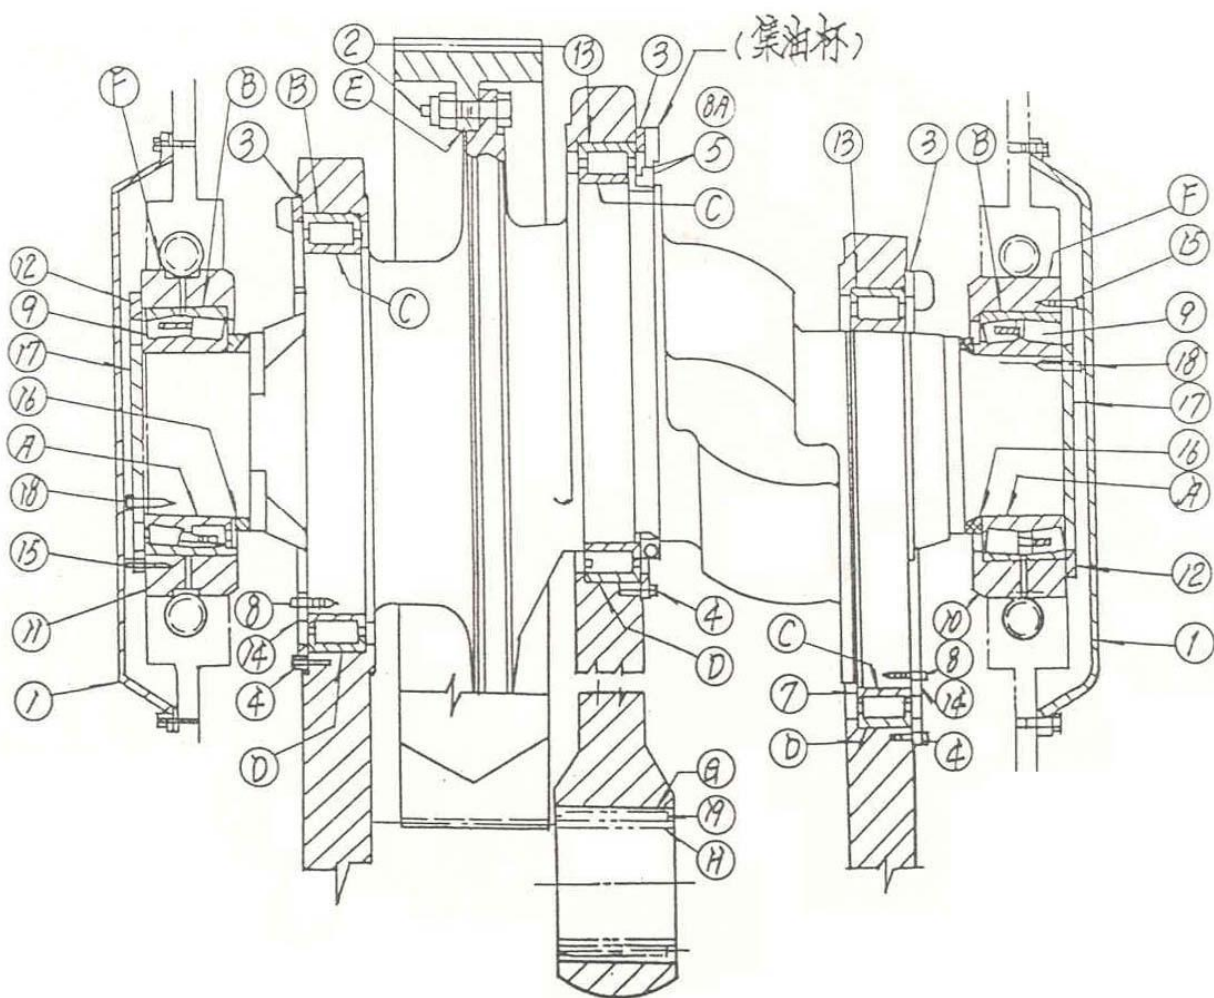

Fig.15
d) Crankshaft Assembly(Fig.15)
Assemble the crankshaft in the following manner: (Refer to Fig.15)